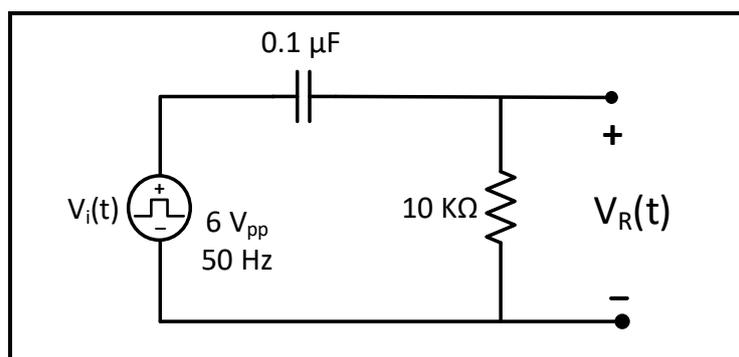

Figure 6.6
5. **Repeat steps 1-4 for the circuit of Figure 6.6**, but this time showing $V_R(t)$ instead of $V_C(t)$, and estimating the value of τ_R .